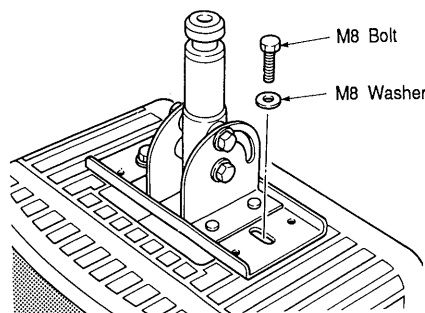

Figure 3
- For speaker enclosures matched for the speaker-side bracket, use the M8 bolts (2) and washers (2) to securely attach the speaker to the bracket. (Figure 3)